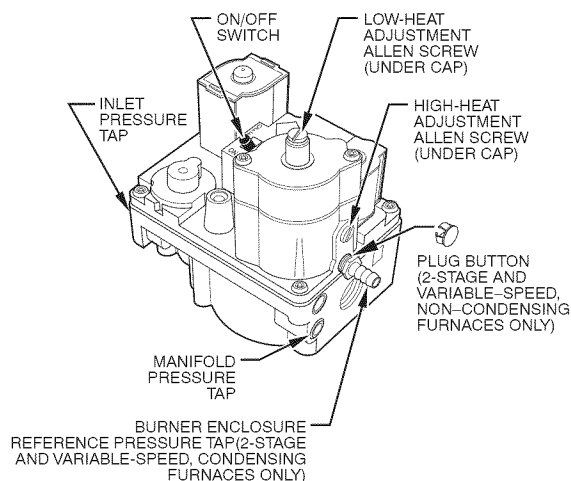

Fig. 44 - 2-Stage E Valve
For older model 2-stage furnaces with a Series E gas valve (see Fig. 44), they **DO NOT** need to have the regulator springs replaced in the gas valve, but the regulators in the gas valve must be pre-adjusted for propane applications.
For E valves see Fig 44.
2. Remove caps that conceal adjustment screws for high- and low-heat stage gas valve regulators. (See Fig. 44.)